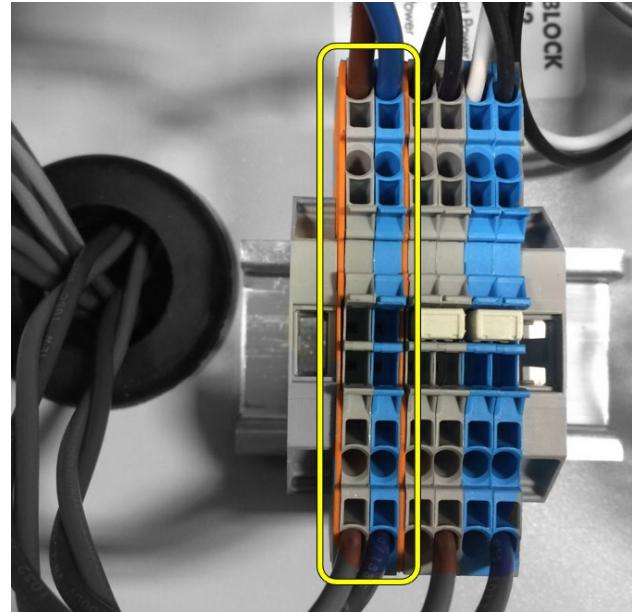

Fig. 4
- i** *The gray and blue terminals between the orange dividers are the live portion of the terminal block. This side is always powered even if the main power switch is turned off. The only way to cut power to this side is by unplugging the cart from the power source. (Fig. 4)*